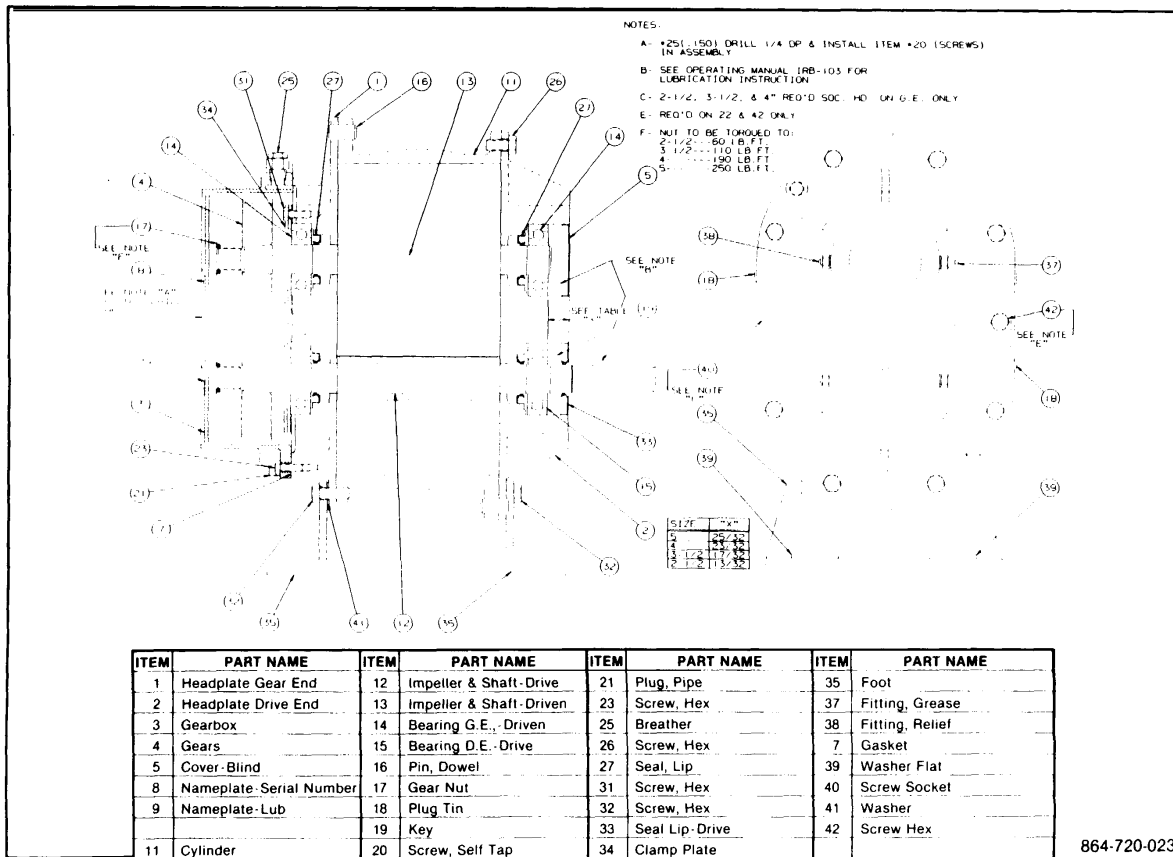

Figure 11 - Dimensional Assembly of UNIVERSAL RA® Blower 2 1/2"-5" Gear Diameter)
10. It is recommended that new bearings be used for rebuild. Apply thin film of machine oil on the shaft bearing fit, bearing I.D., and headplate bearing bore. Install drive end bearings into headplate. Use a tube with flanged end that will contact both bearing faces simultaneously. Refer to Fig. 11 for proper bearing depths.